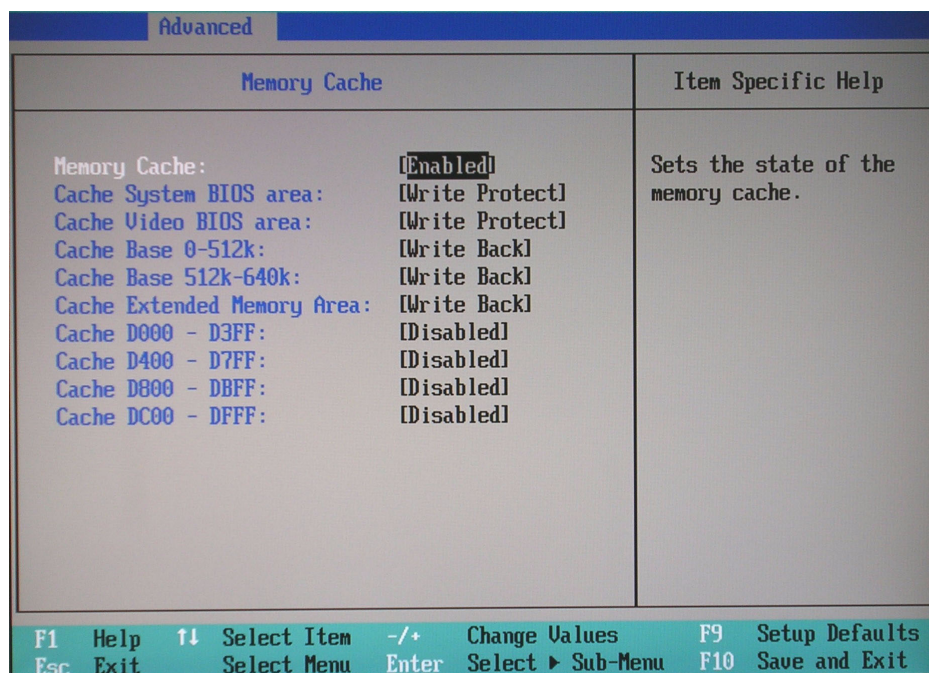

Figure 8-112 BIOS Advanced Memory Cache Parameters
- 9.) Set the parameters in the **Memory Cache** screen as shown above in Figure 8-112.